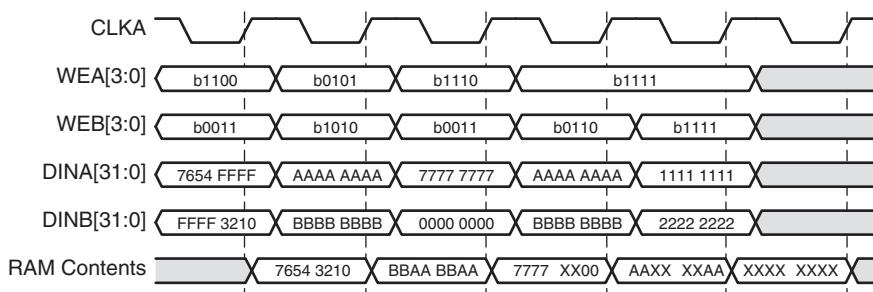

Figure 3-15: Write-Write Collision Example
- **Using Byte-Writes:** When using byte-writes, memory contents are not corrupted when separate bytes are written in the same data word. RAM contents are corrupted only when both ports attempt to Write the same byte. Figure 3-15 illustrates this case. Assume $\text{addra} = \text{addrb} = 0$.